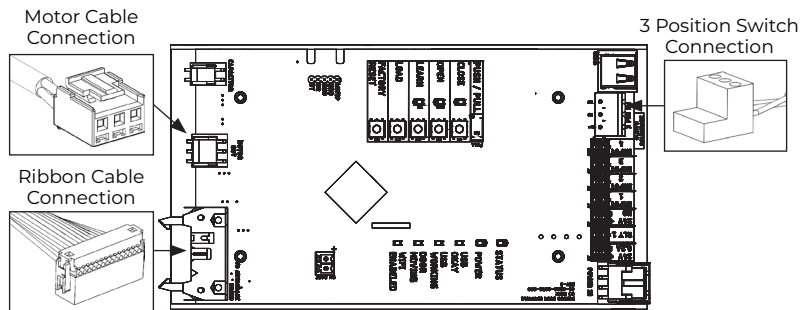

Figure 13
5. Connect the motor cable and ribbon cable from the operator body to the power supply control board. (Figure 13)
6. Connect the 3-position switch to the power supply. (Figure 13).